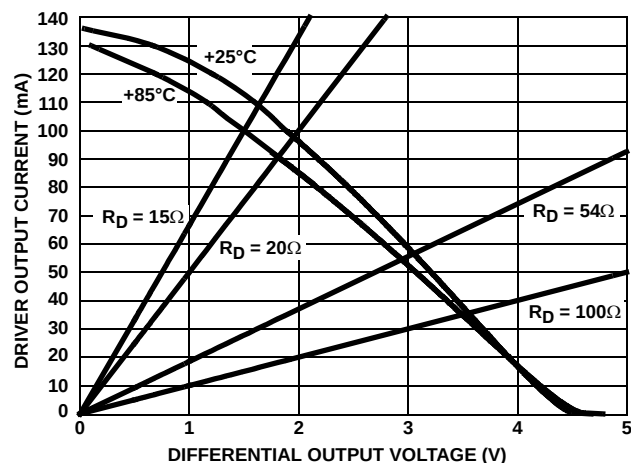

FIGURE 8. DRIVER OUTPUT CURRENT vs DIFFERENTIAL OUTPUT VOLTAGE
- See Figure 8 for more information, and for performance over-temperature.
Another advantage of the large V_{OD} is the ability to drive more than two bus terminations, which allows for utilizing the ISL315xE in "star" and other multi-terminated, "non-standard" network topologies. Figure 8, details the transmitter's V_{OD} vs I_{OUT} characteristic, and includes load lines for six (20 Ω) and eight (15 Ω) 120 Ω terminations. The figure shows that the driver typically delivers 1.65/1.5V into 6/8 terminations, even at the worst case temperature of +85°C. The RS-485 standard requires a minimum 1.5V V_{OD} into two terminations, but the ISL315xE delivers RS-485 voltage levels with 3x to 4x the number of terminations.